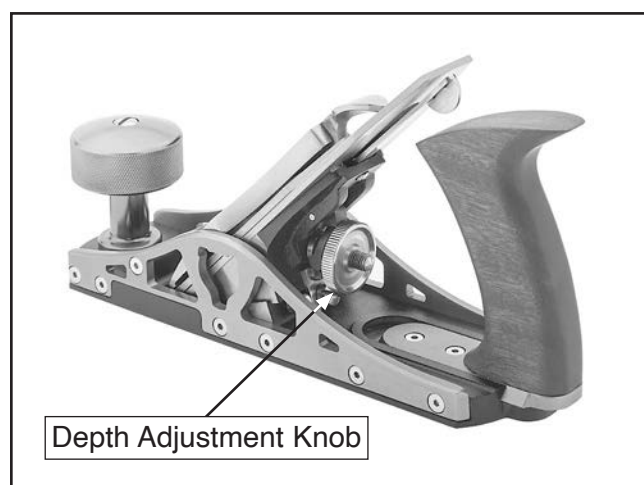

Figure 4. Depth adjustment knob location.
1. Rotate depth adjustment knob clockwise to lower blade, or counterclockwise to raise blade (see **Figure 4**).